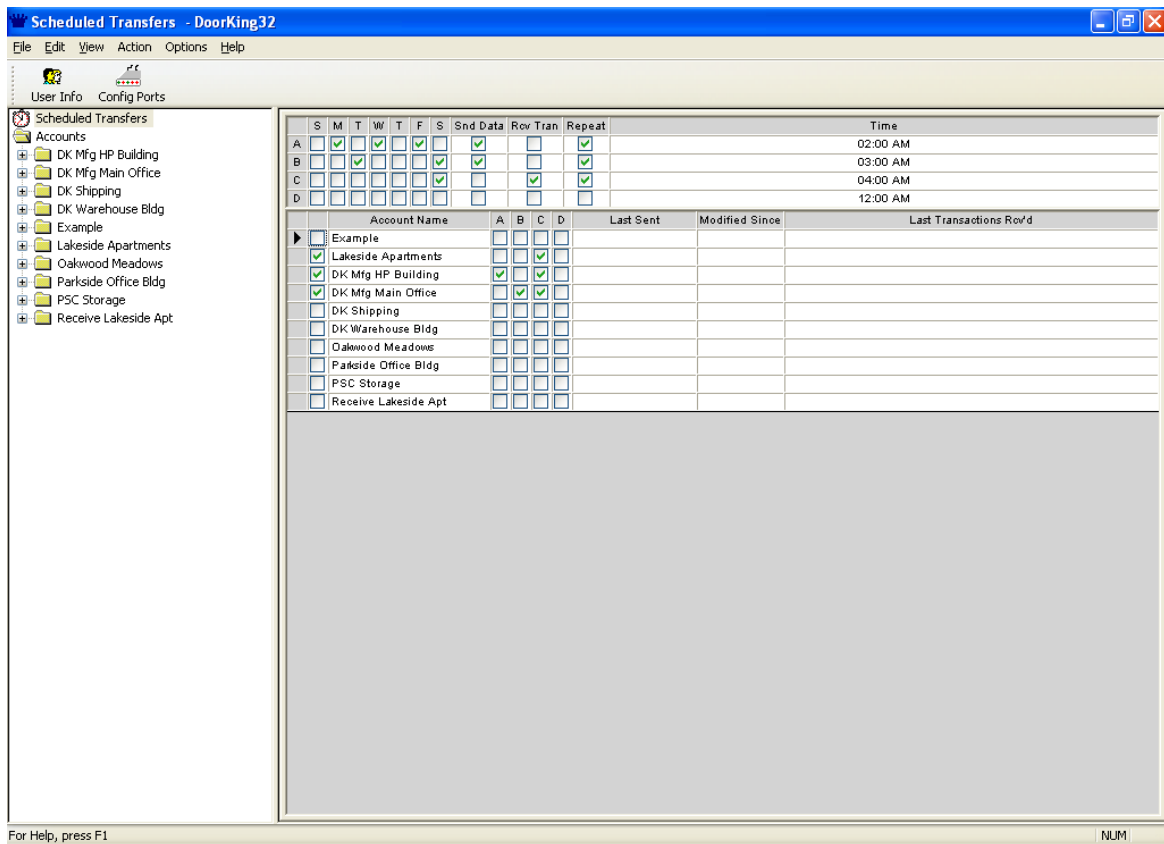

Figure 55
1. Click SCHEDULED TRANSFERS in the side bar. The scheduled transfer window appears (Fig 55).